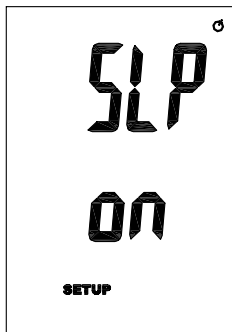

Fig. 6
1. While in Setup mode, press **▲/T1–T2/T3–T4** or **Hold/▼** button to scroll to the “SLP” option screen (Fig. 6).